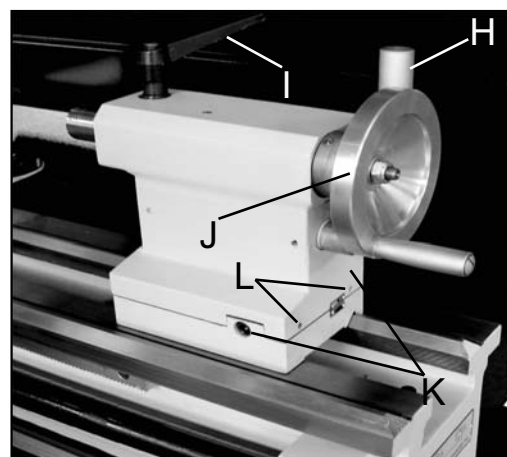
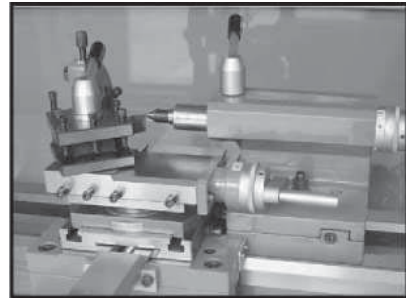

Fig. 16
Fig. 18
16. Tailstock Clamping Handle (H, Fig. 16)
17. Tailstock Quill Clamping Lever (I, Fig. 16)
18. Tailstock Quill Traverse Handwheel(J, Fig. 16)
19. Tailstock Off-set Adjustment (K, Fig. 16)
Three sets screws (K, Fig. 18) located on the tailstock base are used to off-set the tailstock for cutting tapers. Loosen lock screws (L, Fig. 16) on tailstock end. Loosen one side set screw while tightening the other until the amount of off-set is indicated on scale. Tighten lock screw.
The cutting angle is correct when the cutting edge is in line with the center axis of the work piece. The correct height of the tool can be achieved by comparing the tool point with the point of the center mounted in the tailstock. If necessary, use steel spacer shims under the tool to get the required height. (Fig. 18)